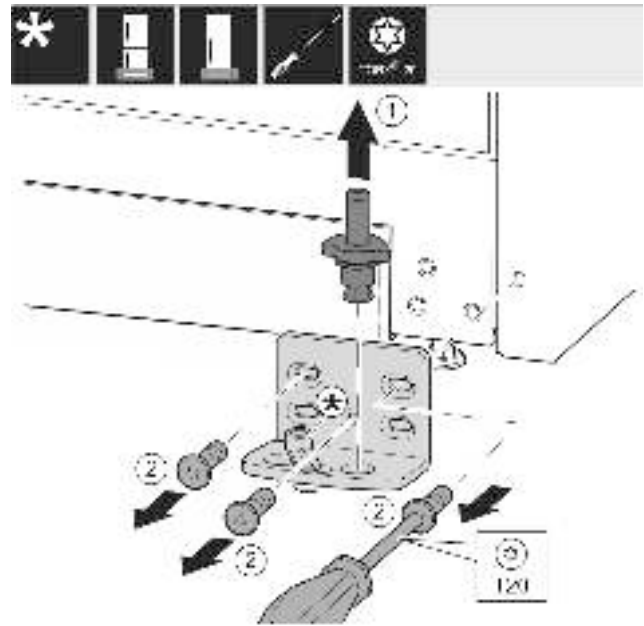

Fig. 13
- Lift the bearing pin completely upward and remove it. *Fig. 13 (1)*
- Remove the screws with the T20 screwdriver and take off the bearing bracket. *Fig. 13 (2)*